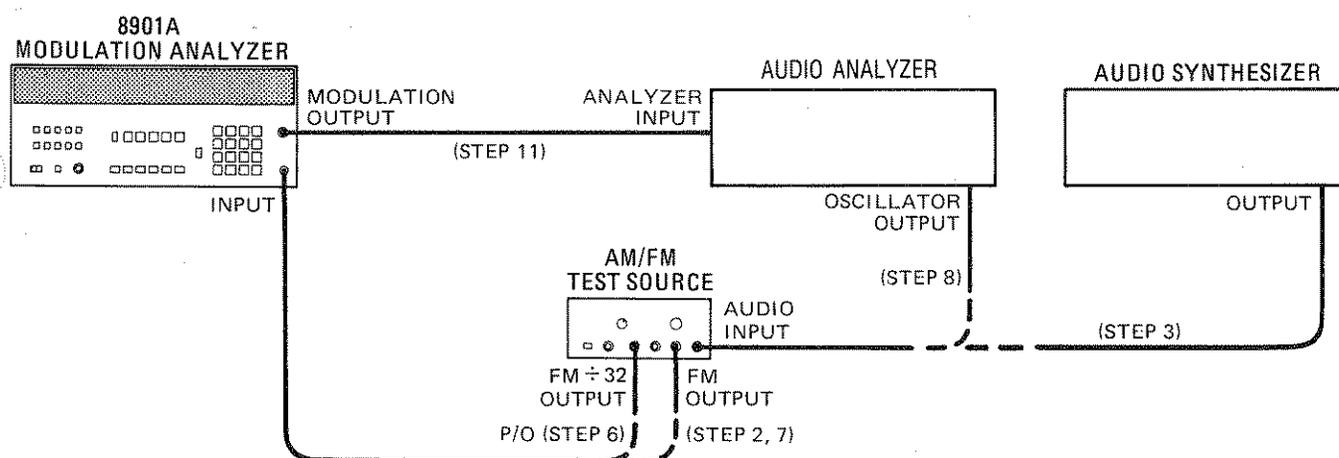

Figure 4-5. ΦM Performance Test Setup
2. On the AM/FM test source, set the test mode to FM. Connect its FM output to the Modulation Analyzer's INPUT. (See figure 4-5.)
3. Set the audio synthesizer to 200 Hz at -10 dBm. Connect its output to the audio input of the AM/FM test source. (See figure 4-5.)
* Connect the FM-32 output of the AM/FM test source to the Modulation Analyzer's INPUT to make this measurement. (See figure 4-5.) Press AUTOMATIC OPERATION, then MHz to retune the Measuring Receiver. If the resolution is not 0.001 rad, press Φ M again.
- Connect the FM output of the AM/FM test source to the Modulation Analyzer's INPUT. (See figure 4-5.) Press AUTOMATIC OPERATION on the Modulation Analyzer.
- Set the audio analyzer's source to 1 kHz. Connect its output to the audio input of the AM/FM test source. (See figure 4-5.)
11. Connect the audio analyzer's input to the Modulation Analyzer's MODULATION OUTPUT. (See figure 4-5.) Set the audio analyzer to measure the distortion on the 1 kHz signal at the MODULATION OUTPUT. Set the high-pass filter on the audio analyzer to 400 Hz. (All audio analyzer filters should be off.) The distortion should be 0.1% (-60 dB or less).